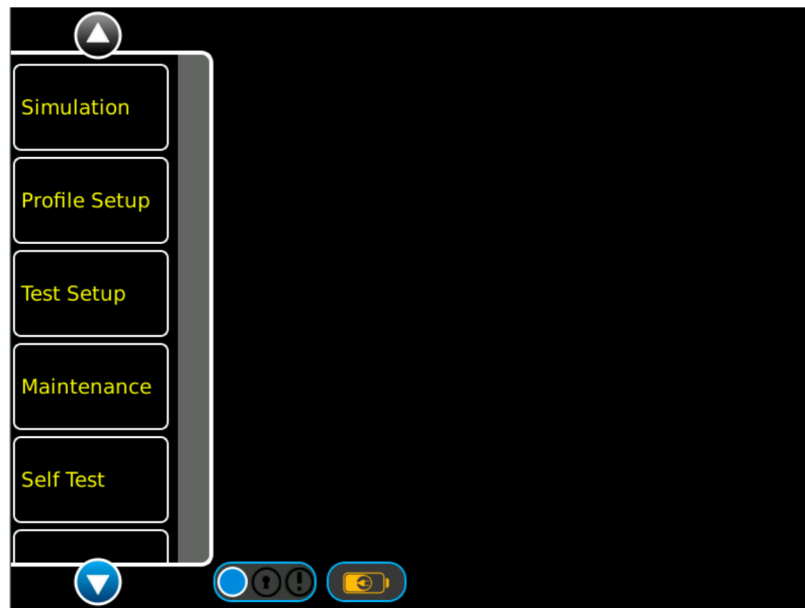

Figure 1-2 Launch Bar
- On the launch bar, press the **Test Setup** function key. See Figure 1-2.
7. On the launch bar, press the **Simulation** function key. See Figure 1-2 and 2-2.
8. On the launch bar, press the **Simulation** function key. See Figures 1-2 and 2-2.
5. On the launch bar, press the **Profile Setup** function key. See Figures 1-2 and 4-1.